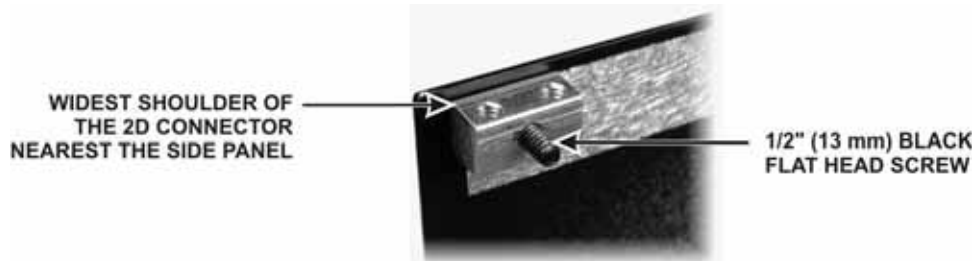

Figure 22. Mounting 2D fastener for KANT3 or KAT3 Standoff.
□ At the upper rear corner of the side panel you just identified in the previous step, mount a 2D fastener as shown in Figure 22, using a black 4-40 1/2" (13 mm) flat head screw. Remember that flat head screws are measured from the flat top to the end of the threads. Note that the screw extends some distance through the 2D fastener.